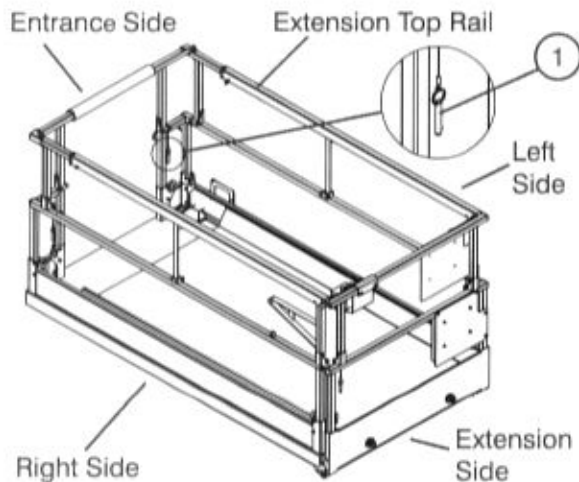

Figure 3-13a. Folding Guardrail System
7. Carefully raise each guardrail up and lock into place with locking pins ensuring that the detent ball of each pin is all the way through (Refer to Figure 3-13a).